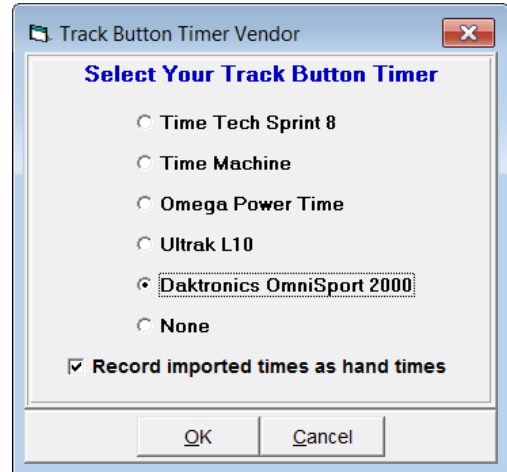

Figure 4: Track Button Timer Vendor
3. Go to **Interfaces > Set-up > Track Button Timer (Figure 4)**.